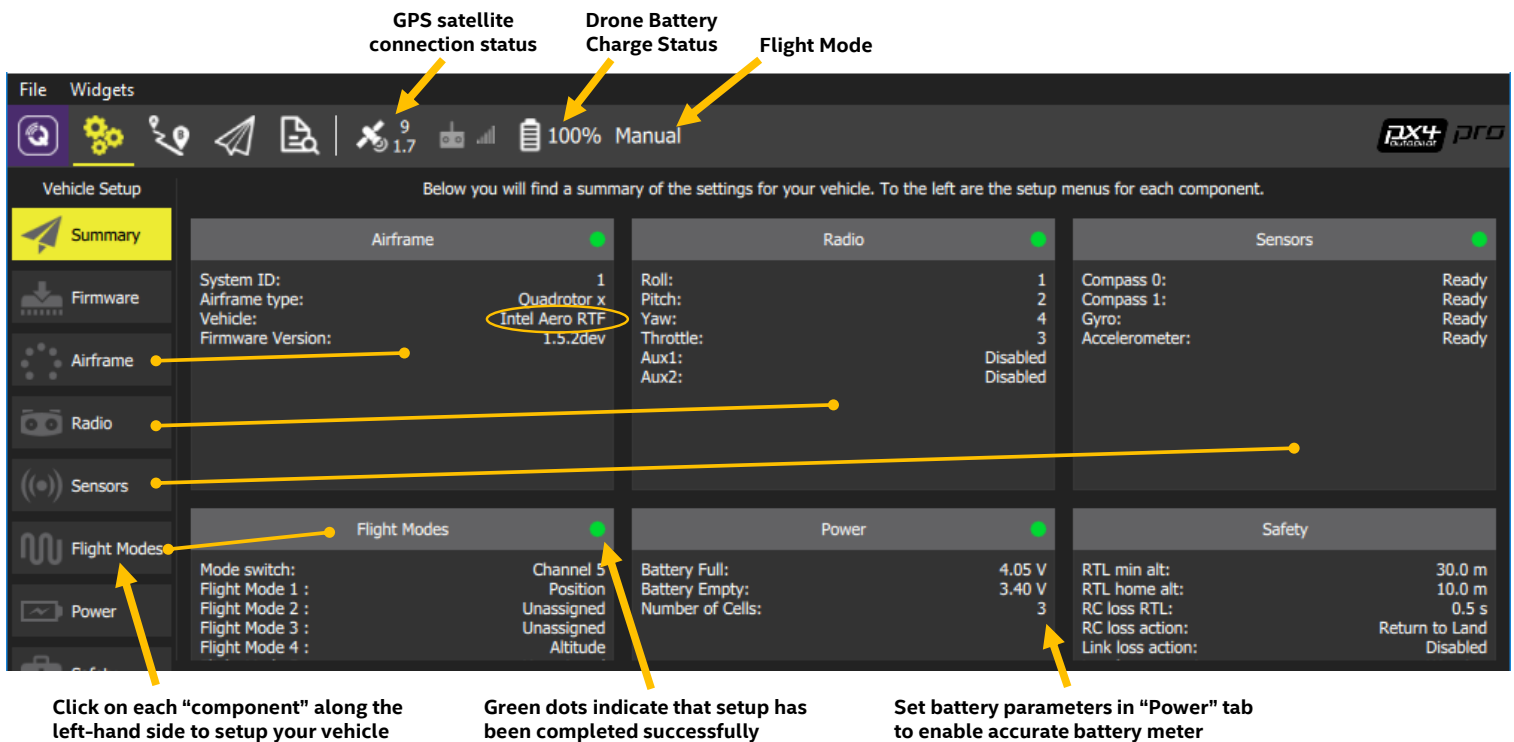

Figure 8. QGroundControl application running on a laptop
c. To perform the calibration process (refer to Figure 8):
- iii. After calibration, the Summary screen should show green status indicators in each tile as shown in Figure 8.